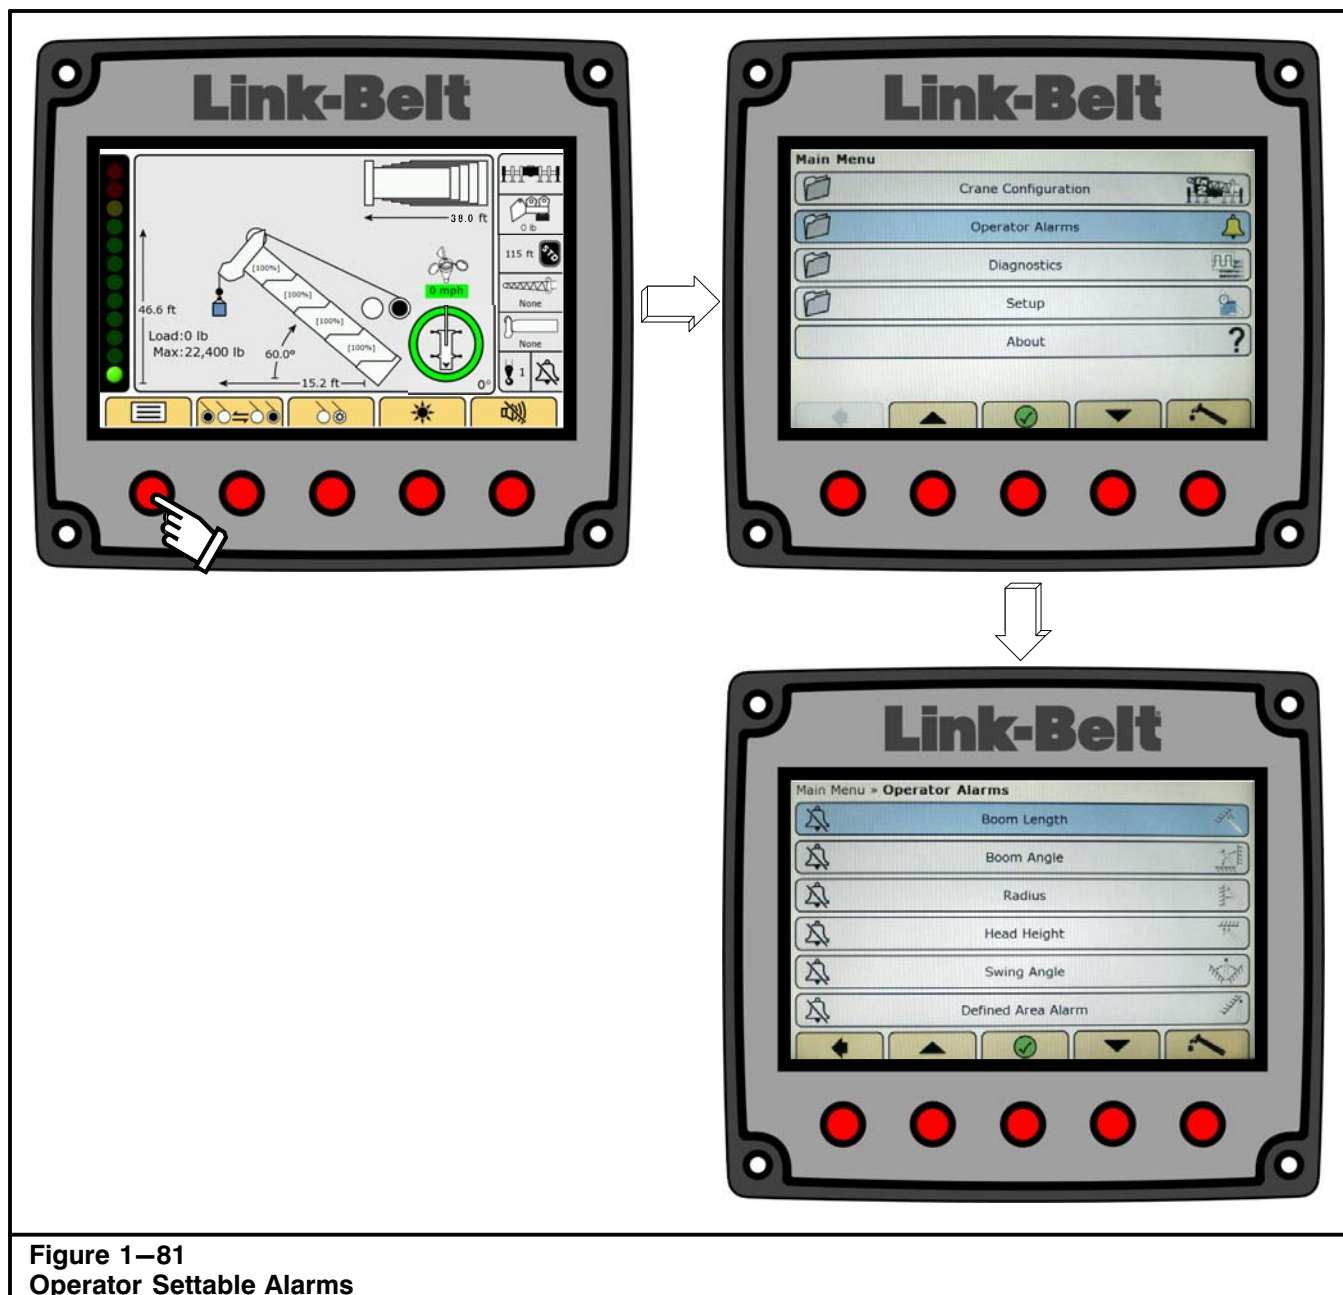

Figure 1-81
Operator Settable alarms will be stored in the computer memory, even if the crane is shutdown, until they are disabled. Refer to Figure 1-81.
1. From the normal working screen, press the Main Menu button . Refer to Figure 1-81.